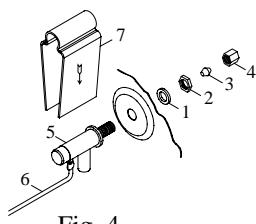

Fig. 4
Install float valve and fill pan. Refer to Fig. 4. Remove items 1, 2, 3, and 4. Insert float body (5) through hole in back post panel as shown. Install washer (1) and nut (2). Tighten to keep float from turning. Place nut (4) and ferrule (3) on water supply line. Connect to float fitting and tighten until water tight. Bend rod (6) to adjust float until water level is about 1 inch below the top of the overflow pipe. Slide float shield (7) over float body (5) until it snaps into place.